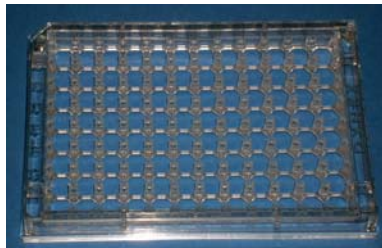

Figure 1
1. Locate the strip tray in the DRI-DYE® Check Strip kit (see Figure 1).